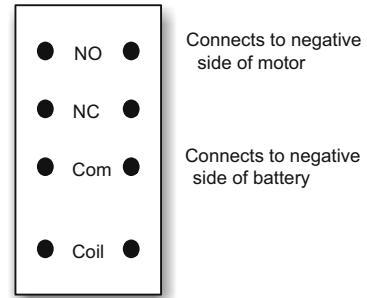

Figure 5.7 Pinouts of DPDT relay
The relay you're going to use is a DPDT; you could use an SPDT relay, but its pinouts are difficult to fit onto a breadboard. Figure 5.7 shows the pinouts for a typical DPDT relay.
You'll need to check the datasheet for the relay you use to identify its pinouts, but as a general rule, the coil is at one end and is spaced differently from the other pins. The *common* (COM) pins are closest to the coil, with the *normally closed* (NC) pins next and the *normally open* (NO) connection at the far end. Figure 5.7 shows the pinouts of the relay we used.